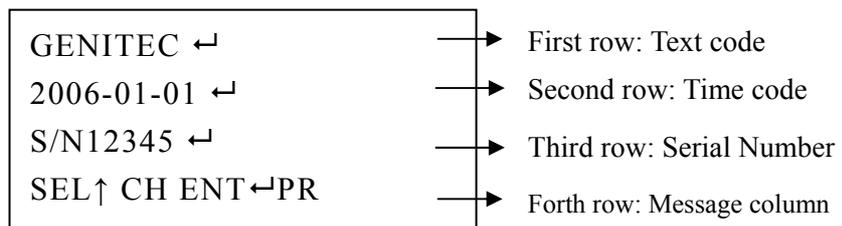

Figure 40
- (1)  button : CAUSER blinks position move to left.
- ① When HOME move to left, it will skip to END of third row on last page automatically. Three are pages exchangeable.
- ② When second row or third row moves to left, it will skip to the END of first row or second row.
- (2)  button : CAUSER blinks moving to the right.
- ① When END of the third row moves to the right, it will skip to HOME of the first row automatically. There are three pages exchangeable.
- ② When END of the first row or second row moves to the right, it will skip to HOME of the second row or third row.
- (3)  button : editing inner code switch to next page; page 1,2,3 are exchangeable; during switches to next page, CAUSER blinks stay at HOME of next page.
4. Press the button  after you saved your data, it will back to setting page of bar code (Refer to figure 40) :